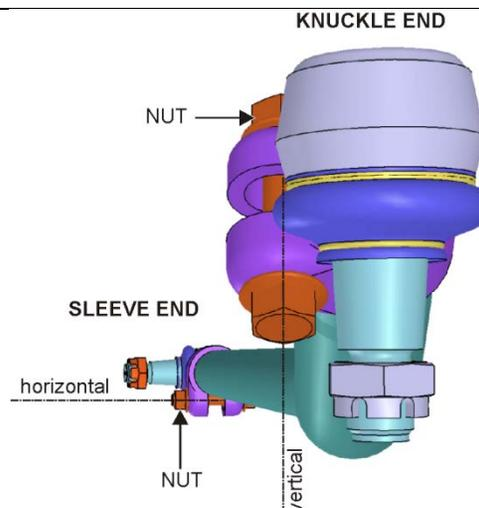

FIGURE 12: NOTE THE HORIZONTAL ORIENTATION OF THE CLAMP BOLT AT THE SLEEVE END AND ON WHICH SIDE THE NUT MUST BE POSITIONED
14. Once the proper length adjustment is done, tighten the front end ball joint clamp. To prevent interference between the ball joint clamp bolts with other components of the steering system, the clamp bolt must be positioned horizontally as shown in FIGURE 12. **Tighten the clamp nut to 118-133 lbf-ft.**